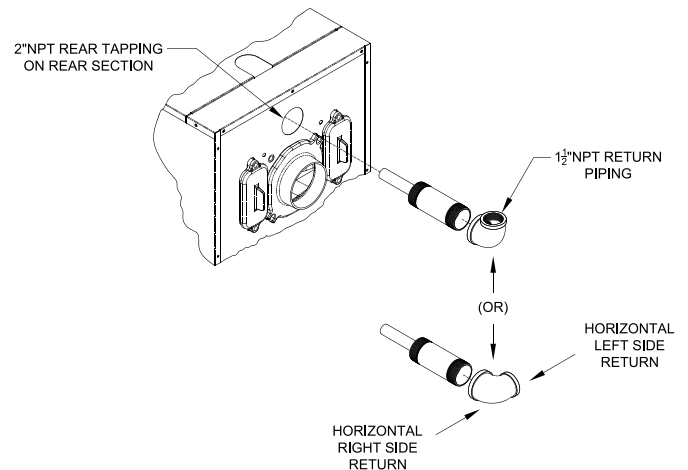

Figure 3-7: Return Injector Piping and Relief Valve Assembly Details
3. Install return injector piping and relief valve, refer to Figure 3-7.
Note: Based on system return piping and access to service boiler, see Figures 1-1, 4-2 and 4-3, predetermine if injector piping orientation is to be positioned for vertical, horizontal left or horizontal right side return piping as shown in Figure 3-7.